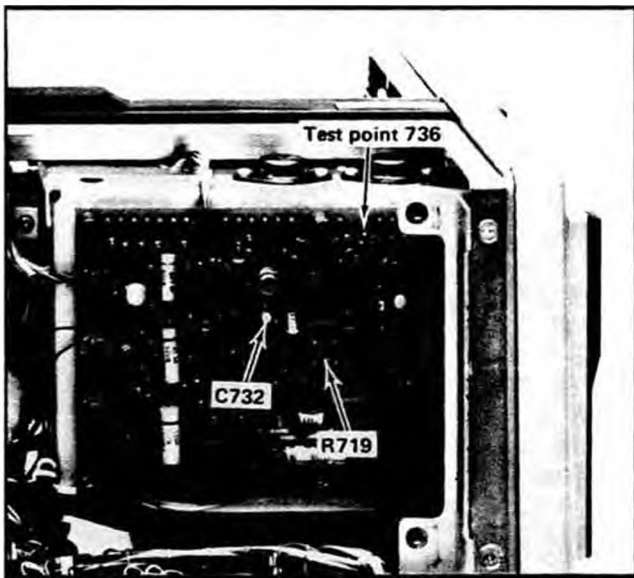

Fig. 5-23. Location of test point 736, C732, and R719.
- d. Connect the P6053 probe to test point 736 (see Fig. 5-23) on the Z-Axis circuit board.
- f. ADJUST—R719 and C732 (see Fig. 5-23) for optimum square leading corner and a waveform risetime of 30 nanoseconds or less.
- g. ADJUST—R719 and C732 (see Fig. 5-23) for optimum square leading corner and a waveform risetime of 30 nanoseconds or less.